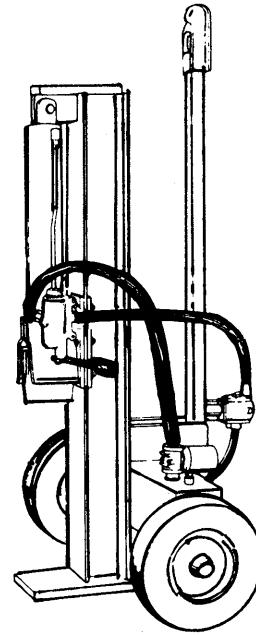

FIGURE 17.
- The tongue can be removed and reattached in an upright position as shown in figure 17 to take less space when storing.